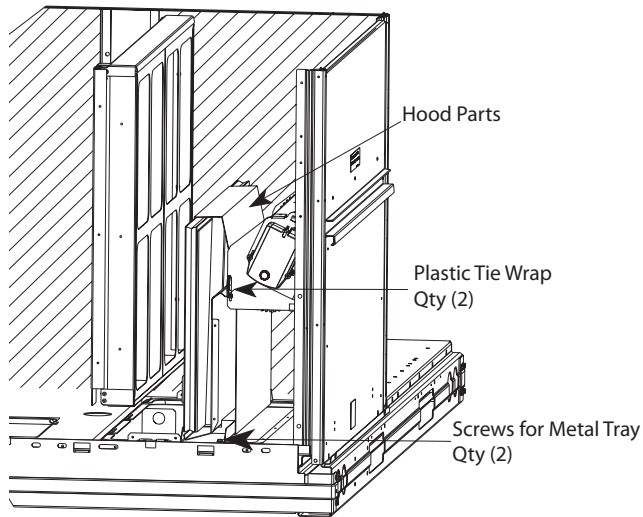

Fig. 12 — Two-Position Damper Hood Package Location
3. Locate the (2) screws holding the metal tray to the basepan and remove. In order to remove the screws, it may be necessary to remove the panel underneath the two-position damper. Remove the two screws. Locate and cut the (2) plastic tie-wraps securing the assembly to the damper. See Fig. 12. Be careful to not damage any wiring or cut tie-wraps securing any wiring.